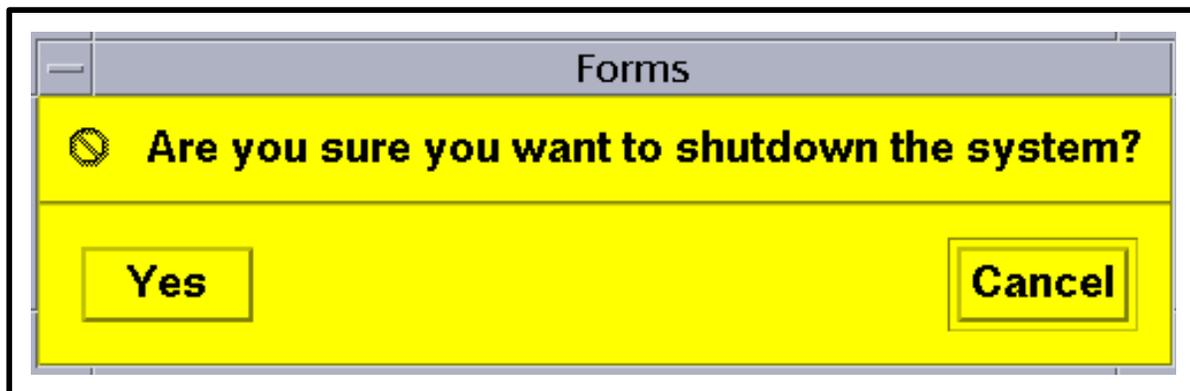

Figure 33. Shutdown Confirmation Dialogue Box
- A yellow **Shutdown Confirmation** dialogue box (Figure 33) is displayed.